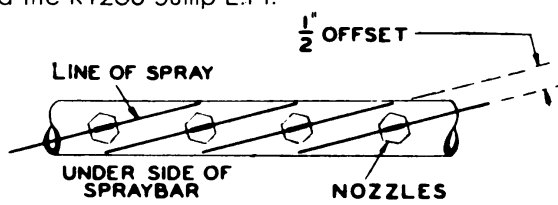

Fig. 35
**NOZZLES (Fig. 35)**—The R926 Nozzles are screwed into the openings at the bottom of the Spraybar and when tight are left slightly offset (Fig. 35) so that adjacent lines of spray will not intermingle and cause uneven distribution.